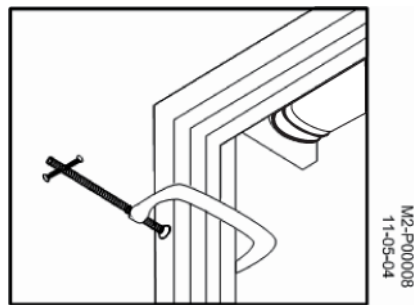

Figure 2-14: Temporarily Attaching the Door
3. Temporarily attach the door with clamps or some other secure method. See Figure 2-14.